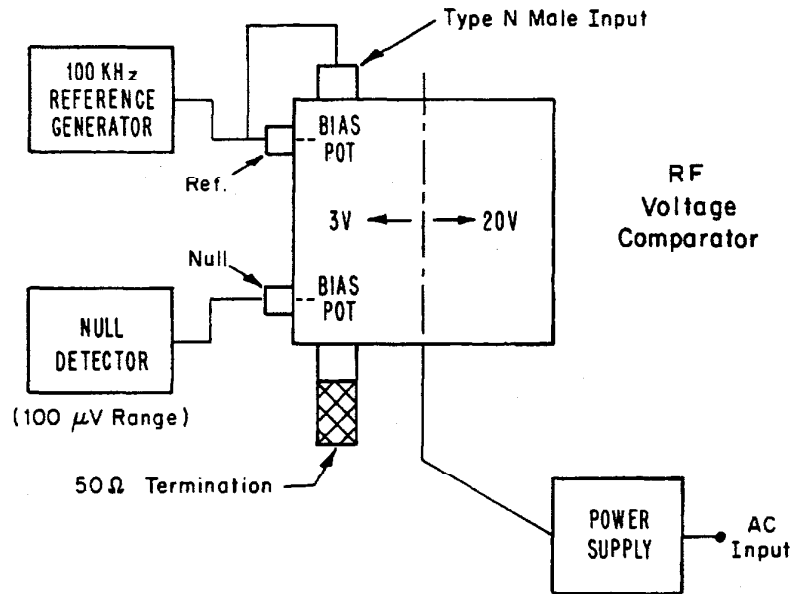

Figure 6. Offset Voltage Measurement Diagram
3. Connect the equipment as shown in figure 6.